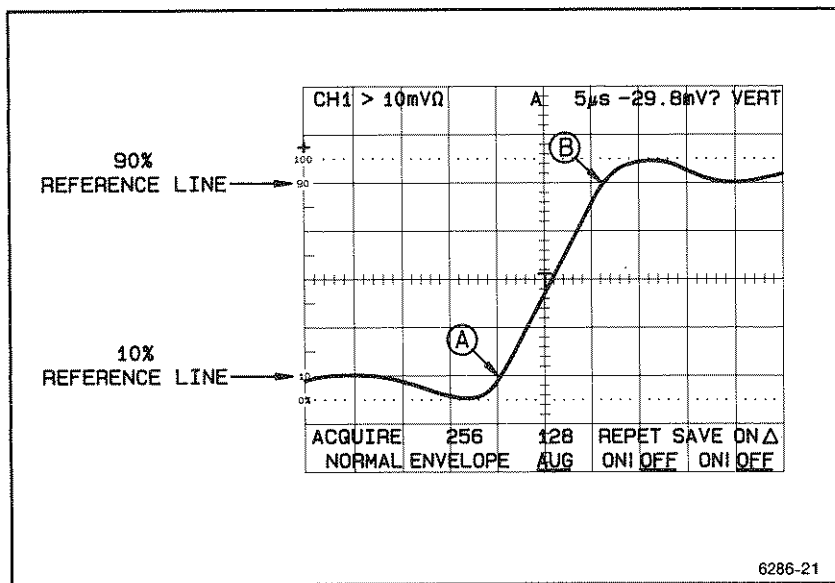

Figure 3-5. Rise time of a square wave (time duration).
5. Horizontally position the square wave so that the 10% point on the waveform intersects a vertical graticule line near the left side of the screen. (See point A of Figure 3-5).
6. Count the number of horizontal divisions, including fractional divisions, between the 10% and 90% amplitude levels on the waveform. (See points A and B of Figure 3-5.) To determine the rise time, use the following general formula for time duration measurements:
EXAMPLE: Figure 3-5 gives the SEC/DIV control setting as 5 μs for the A time base. Counting the number of divisions between the 10% and 90% graticule lines (marked as A and B in diagram) yields 2.2 divisions. Substituting these values into the above formula yields